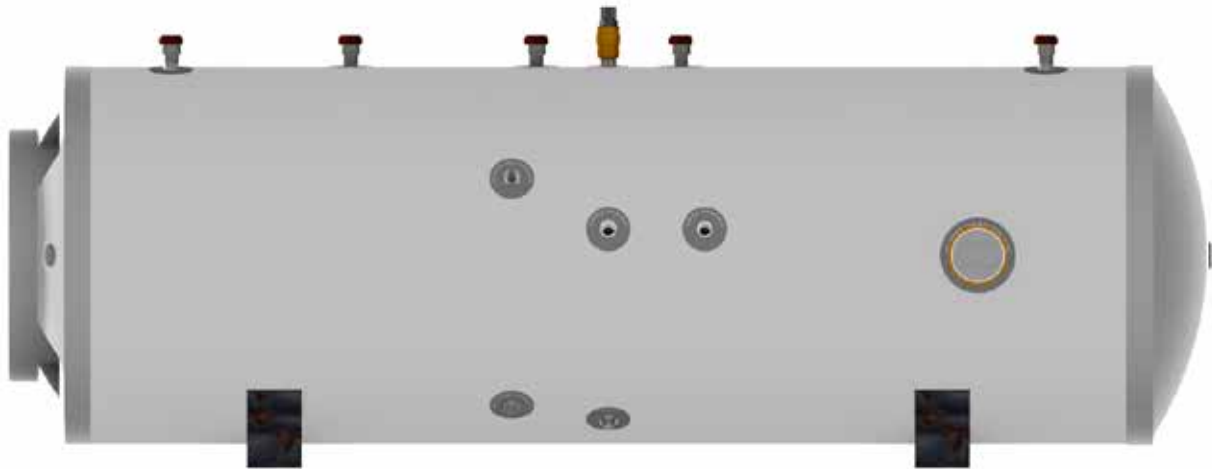

Figure 2 - Stainless Lite Horizontal Indirect Solar
2. **Stainless Lite Horizontal Indirect Solar** - For providing hot water by solar gains and gas or oil boilers (Figure 2). Unvented cylinders must not be used with solid fuel boilers or steam as the energy source.